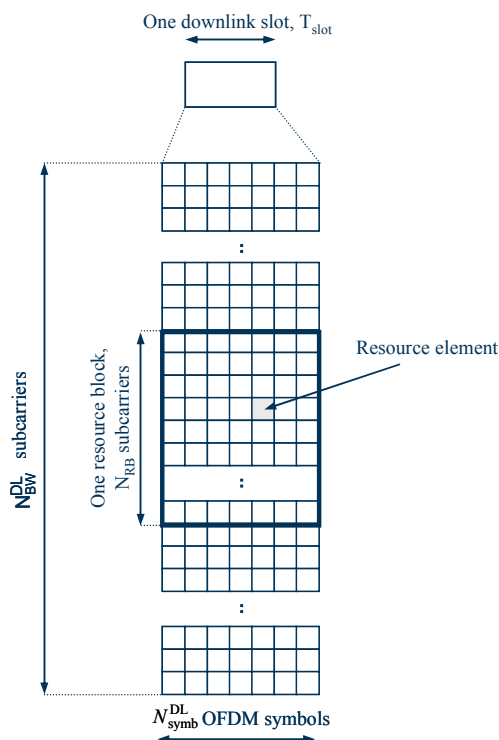

Figure 1-5: Downlink Resource Grid
Figure 1-5 shows the structure of the downlink resource grid for the duration of one downlink slot. The available downlink bandwidth consists of  $N_{BW}^{DL}$  subcarriers with a spacing of  $\Delta f = 15$  kHz. In the case of multi-cell MBMS transmission, a subcarrier spacing of  $\Delta f = 7.5$  kHz is also possible.  $N_{BW}^{DL}$  can vary in order to allow for scalable bandwidth operation up to 20 MHz. Initially, the bandwidths for LTE were explicitly defined within layer 1 specifications. Later on a bandwidth agnostic layer 1 was introduced, with  $N_{BW}^{DL}$  for the different bandwidths to be specified by 3GPP RAN4 to meet performance requirements, e.g. for out-of-band emission requirements and regulatory emission limits.
One downlink slot consists of  $N_{\text{symp}}^{\text{DL}}$  OFDM symbols. To each symbol, a cyclic prefix (CP) is appended as guard time, compare Figure 1-5.  $N_{\text{symp}}^{\text{DL}}$  depends on the cyclic prefix length. The generic frame structure with normal cyclic prefix length contains  $N_{\text{symp}}^{\text{DL}} = 7$  symbols. This translates into a cyclic prefix length of  $T_{\text{CP}} \approx 5.2\mu\text{s}$  for the first symbol and  $T_{\text{CP}} \approx 4.7\mu\text{s}$  for the remaining 6 symbols. Additionally, an extended cyclic prefix is defined in order to cover large cell scenarios with higher delay spread and MBMS transmission. The generic frame structure with extended cyclic prefix of  $T_{\text{CP-E}} \approx 16.7\mu\text{s}$  contains  $N_{\text{symp}}^{\text{DL}} = 6$  OFDM symbols (subcarrier spacing 15 kHz). The generic frame structure with extended cyclic prefix of  $T_{\text{CP-E}} \approx 33.3\mu\text{s}$  contains  $N_{\text{symp}}^{\text{DL}} = 3$  symbols (subcarrier spacing 7.5 kHz).
consecutive OFDM symbols, see Figure 1-5.  $N_{\text{symp}}^{\text{DL}}$  is equal to the number of OFDM symbols in a slot. The resource block size is the same for all bandwidths, therefore the number of available physical resource blocks depends on the bandwidth.